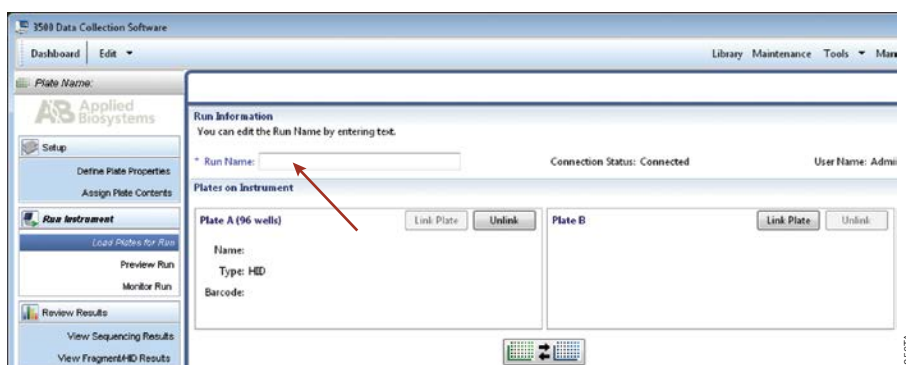

Figure 12. Assigning a run name.
18. In the Run Information window (Figure 12), assign a Run Name. Select “Start Run” (not shown).